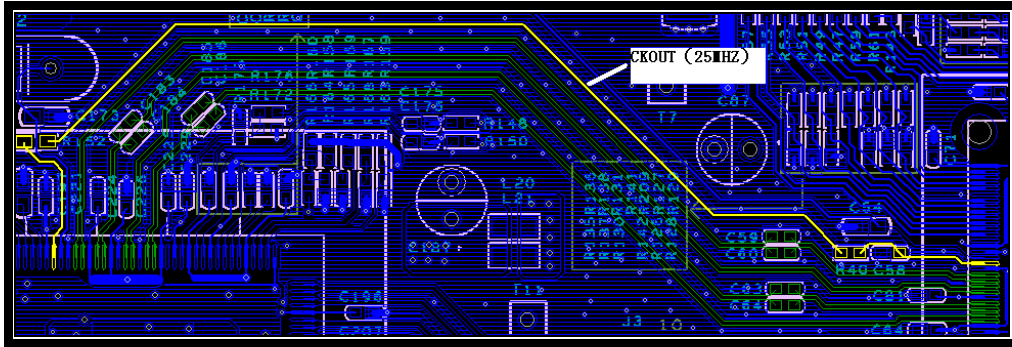
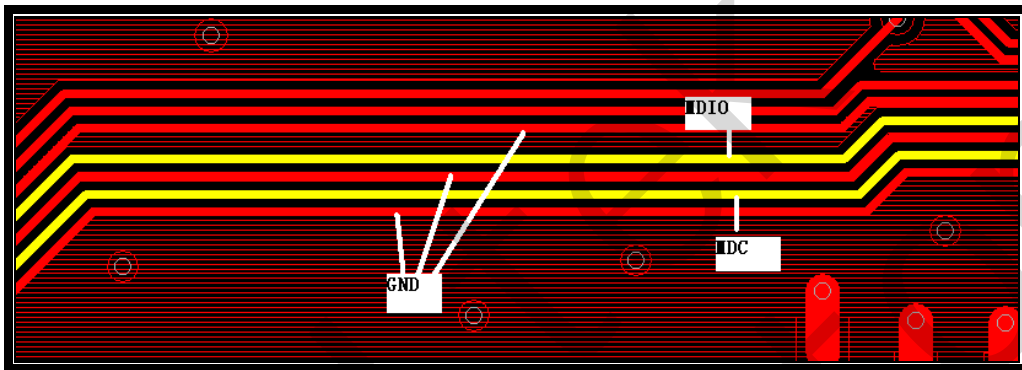
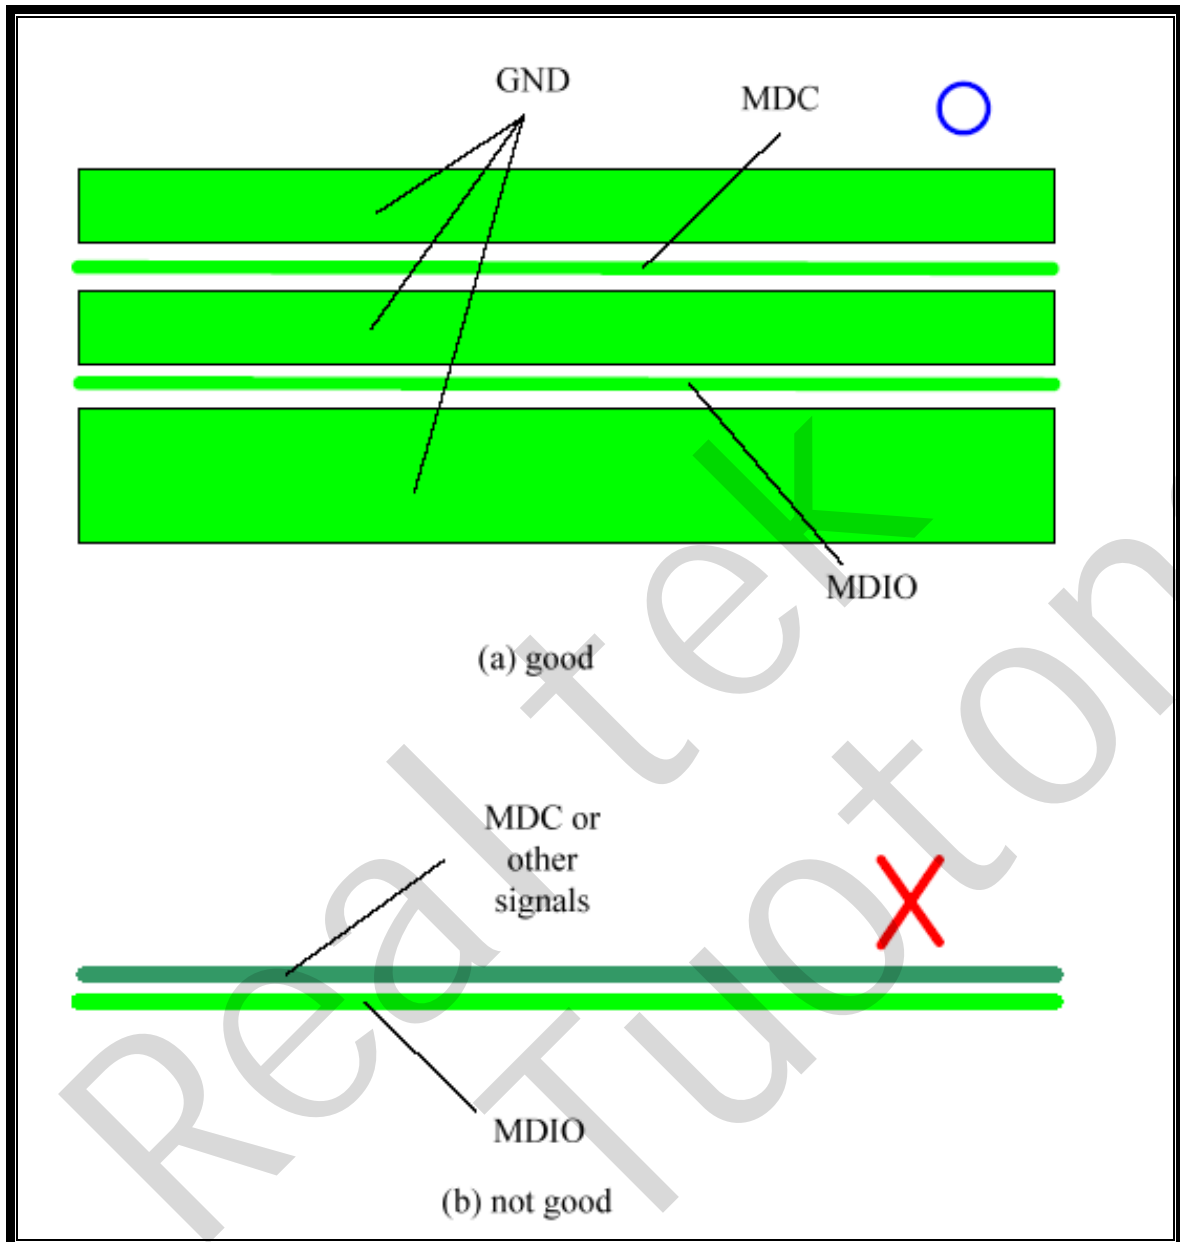

Figure 2. Place GND net adjacent to CKOUT (25M) signal routing trace
Figure 3. Place GND net adjacent to MDIO /MDC signal routing traces (1)
Figure 4. Place GND net adjacent to MDIO signal routing traces (2)
- Always try routing GND trace adjacent to high speed and sensitive signal(e.g. CKOUT (25M) (see Figure 2); MDC, MDIO (see Figure3 Figure4) )